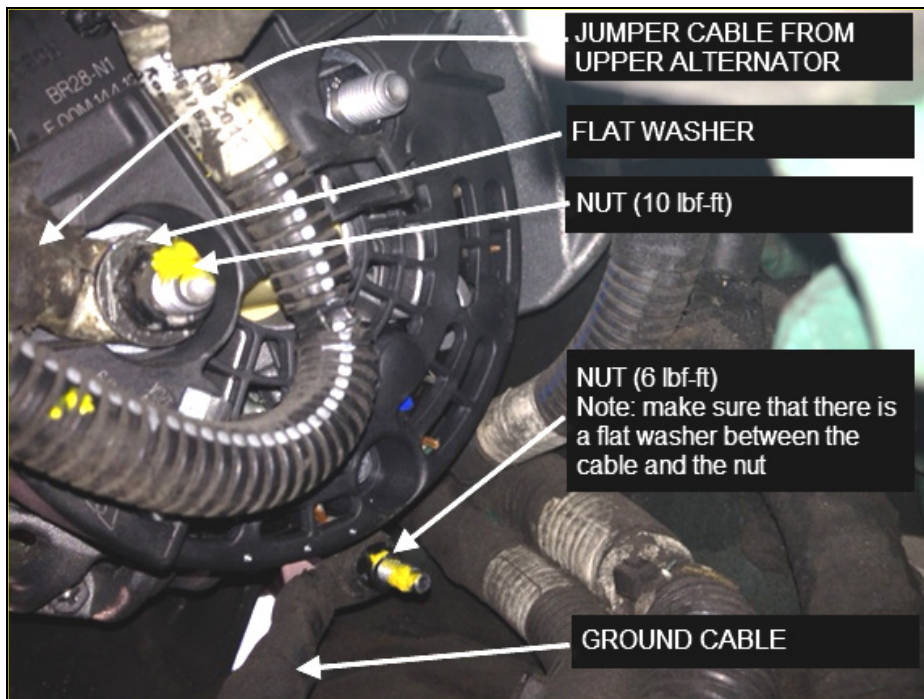

FIGURE 10
- b) Place one new flat washer #5001341 against the jumper cable ring terminal and screw new nut #5001983 (nut torque: 10 lbf-ft) (figure 10).
16. Fit the ground cable onto the alternator ground stud, place one new flat washer #502573 against the ground cable ring terminal and screw a new nut #5001182 (nut torque: 6 lbf-ft) (figure 10).